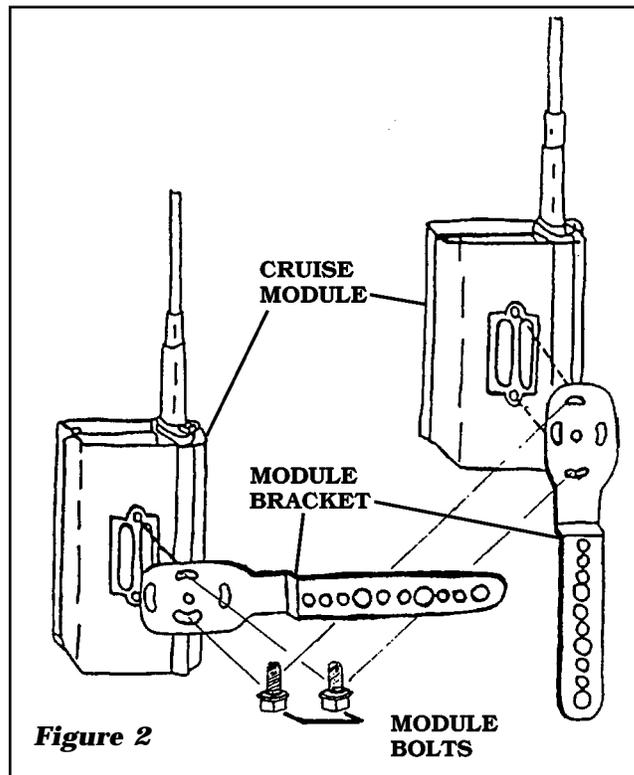

Figure 2
B. Once you have selected a location, install the **MODULE BRACKET** to the bottom of the **CRUISE MODULE** with the **two (2) MODULE BOLTS** provided. It may be necessary to cut and bend the **MODULE BRACKET** to achieve a custom fit. **Figure 2**